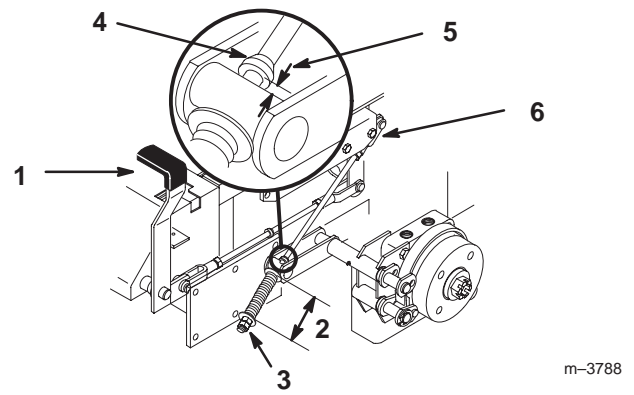

Figure 52
2. Measure the length of the spring. Measurement should be 2.75 in. (70 mm) between washers (Fig. 52).
3. If adjustment is necessary, loosen the jam nut below the spring and tighten the nut directly below the yoke (Fig. 52). Turn the nut until the correct measurement is obtained. Tighten the two nuts together and repeat on opposite side of unit.
6. Measure the distance between the trunnion roller and the collar on brake rod. Measurement should be 3/16-1/4 in. (5-7 mm) (Fig. 52).
7. If adjustment is necessary, loosen the jam nut directly below the yoke. Turn the bottom rod until the correct measurement is obtained (Fig. 52). Tighten jam nut at yoke